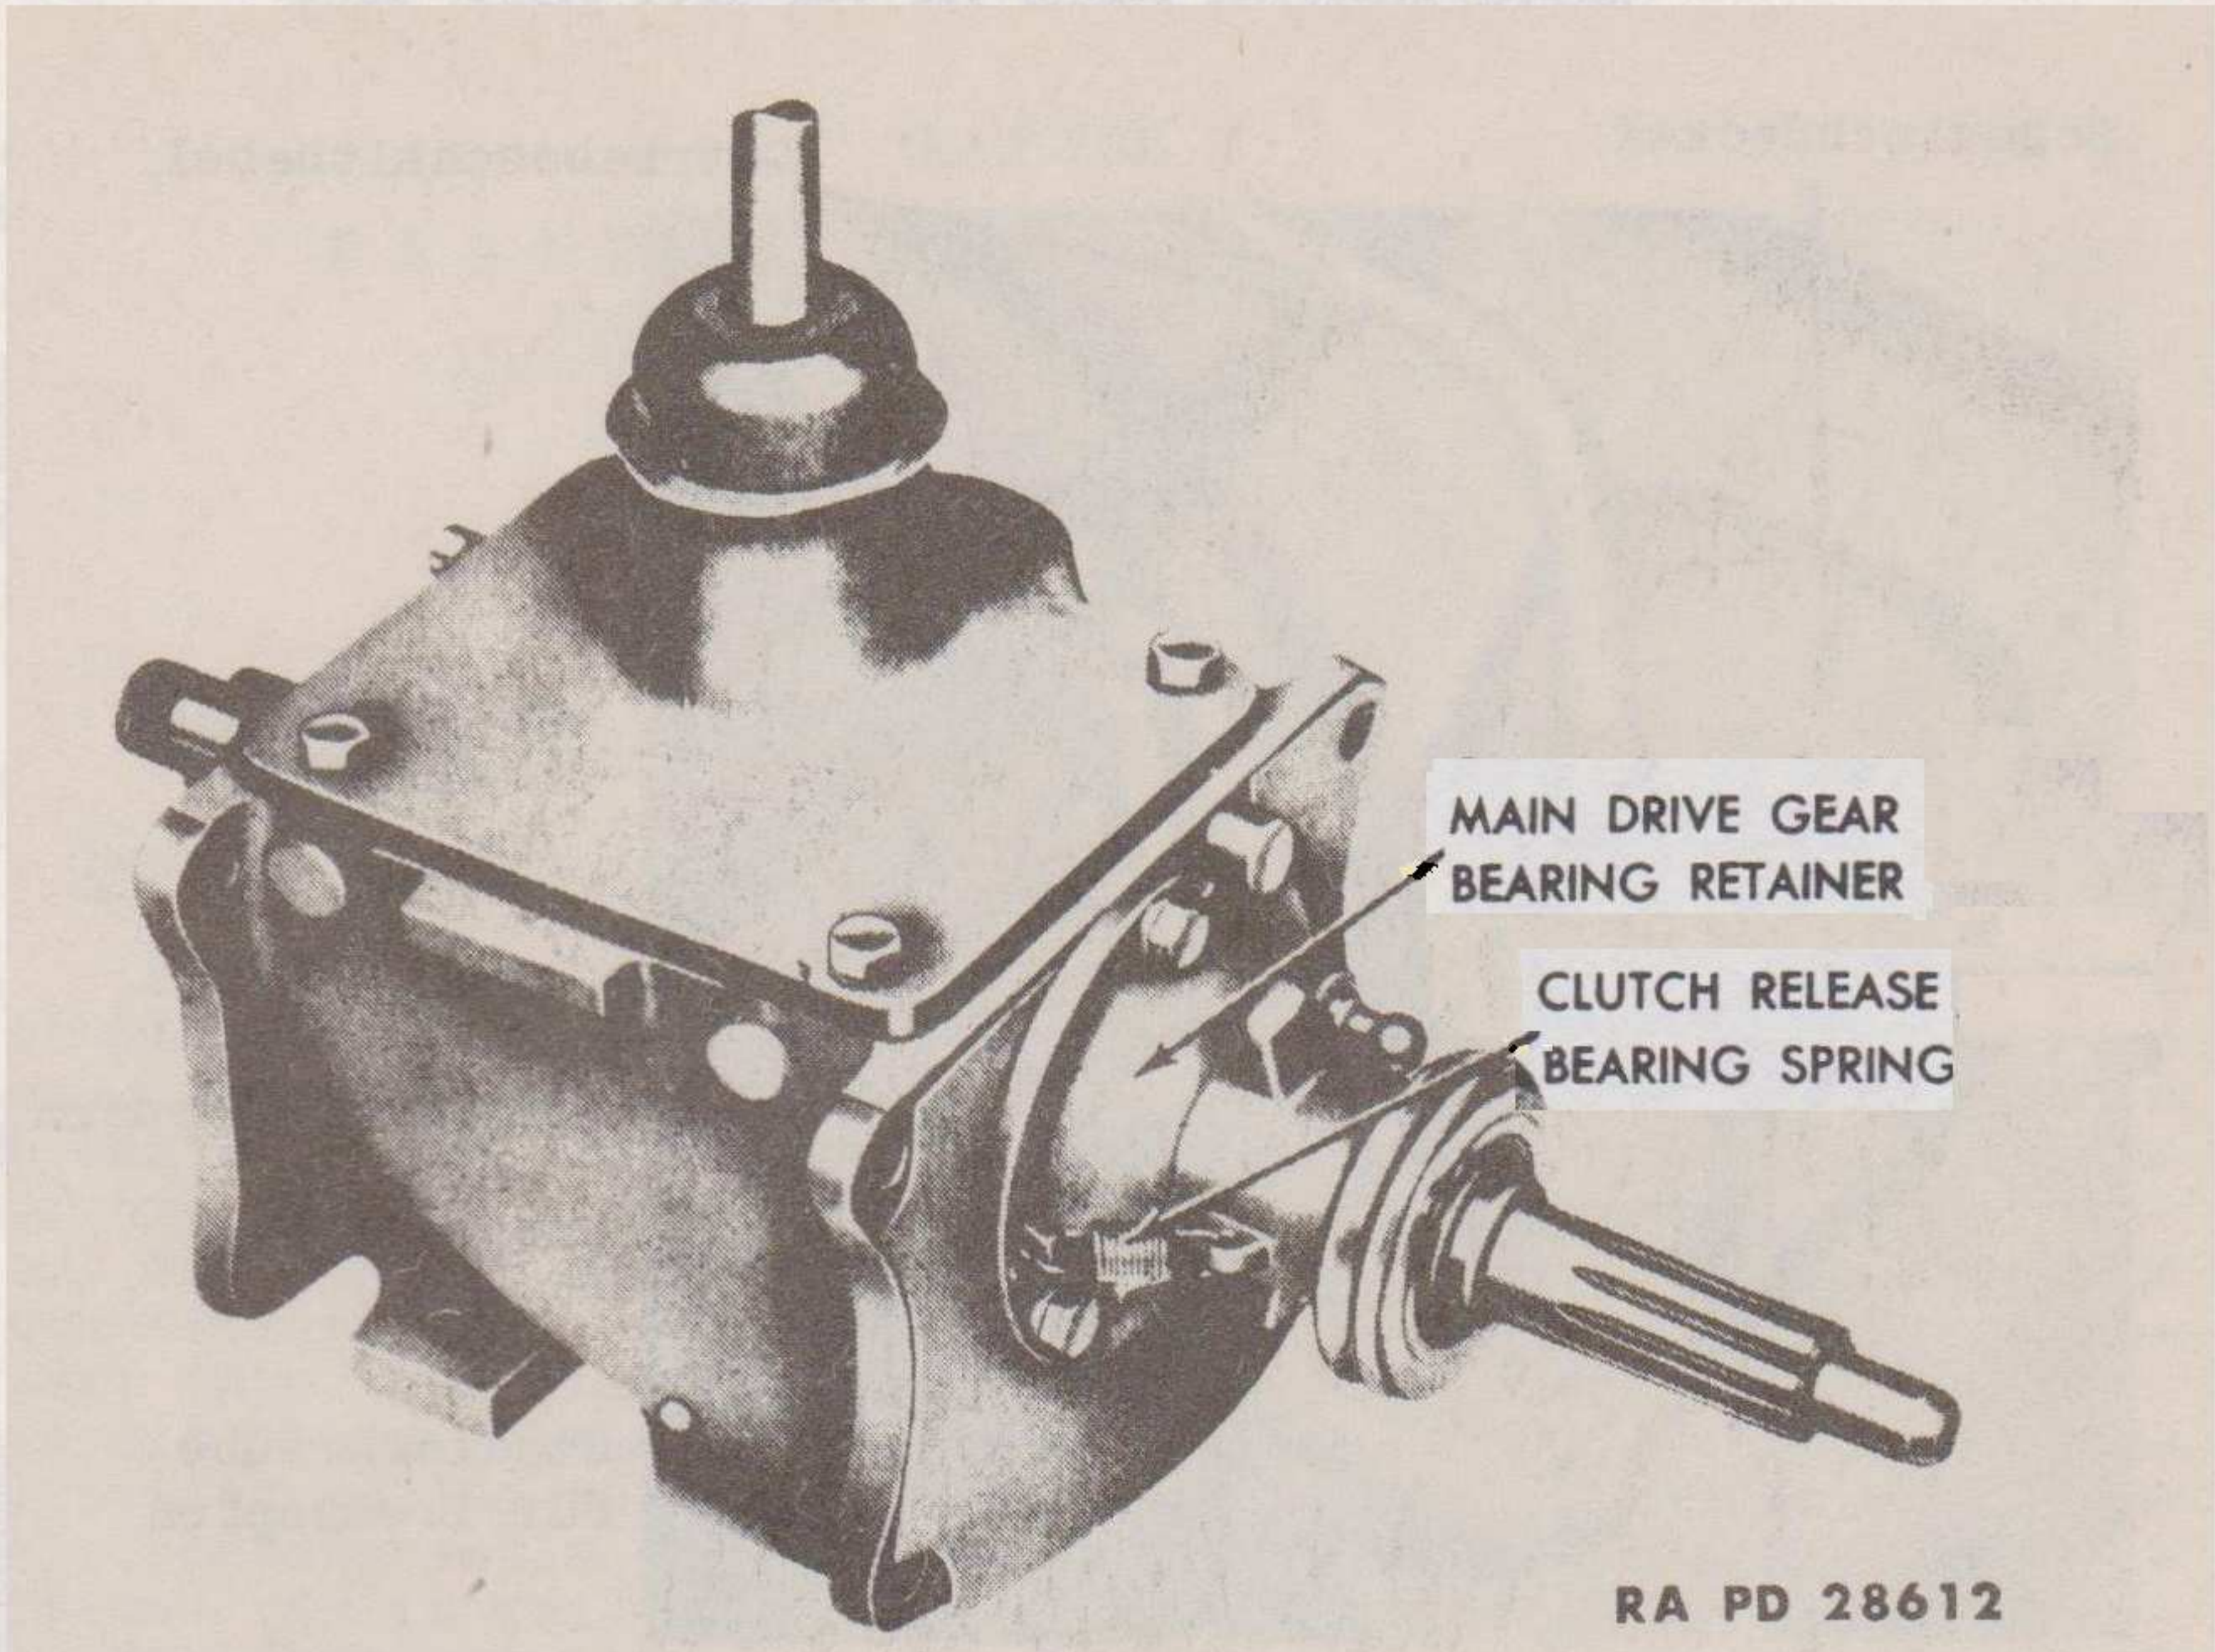

Figure 3 - Transmission - Three-quarter Front View
a. **Description.** The transmission (fig. 3) is of the 3-speed type with synchronized second and high speed gears. The transmission and transfer case are mounted on rubber on the frame center cross-member. The gearshift lever is incorporated in the gearshift housing.
b. **Remove Main Drive Gear Bearing Retainer** (fig. 3). Unhook the clutch release bearing return spring and slide the bearing assembly off the bearing retainer. Remove the three cap screws from the bearing retainer. Slide the bearing retainer and cork gasket off the main drive gear.